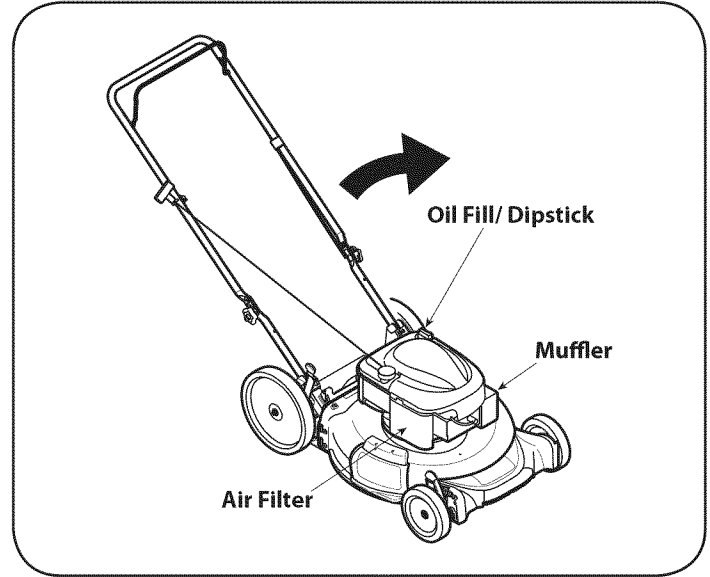

Figure 15
3. Remove the oil fill dipstick and drain the oil into the container by tipping the engine toward the oil filler neck. See Figure 15.
2. Tip mower so that it rests on the housing, keeping the muffler side down. Refer back to Figure 15. Hold mower firmly.